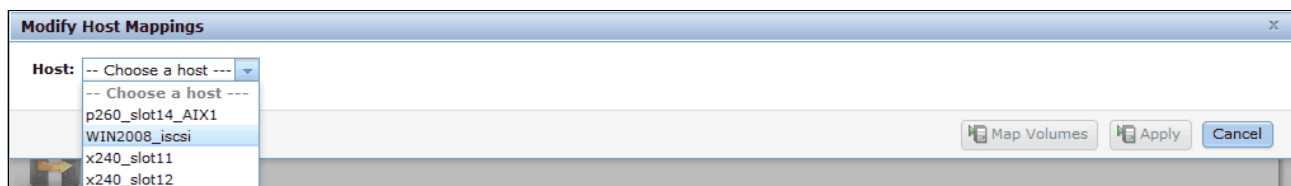

Figure 6-32 Map to host - choose host
2. Select a host to which the new volume should be attached (Figure 6-32).